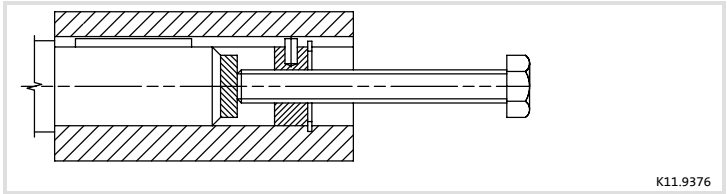

Fig. 8 Puller for spring-loaded pulleys, type 11.213.10 without flange
For sizes 10 - 31, the mechanically-adjustable pulleys are removed with a puller device (Fig. 8).
First, unscrew the fixing bolt (1) and remove the ring (4) (Fig. 8).